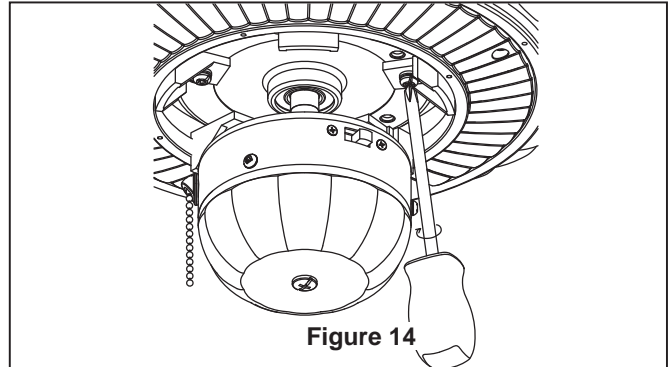

Figure 14
1. Remove and discard the (rubber) motor “stops” by removing the four screws. (Figure 14)